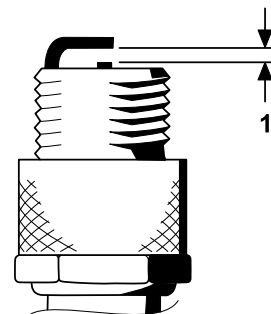

Figure 35
4. Set the air gap between the center and side of the electrodes at 0.76 mm (0.030 inches) as shown in Figure 35.